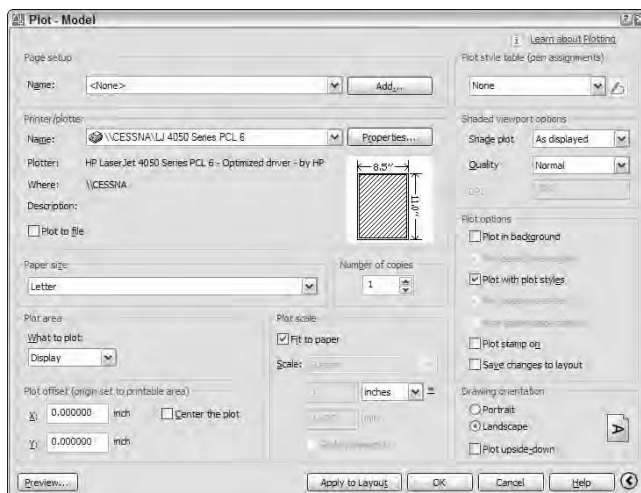

Figure 13-3:
The Plot dialog box reveals additional settings, as shown in Figure 13-3.
- 12. In the Plot Options area, make sure that the Plot With Plot Styles check box is selected and that the Save Changes To Layout check box is deselected, as shown in Figure 13-3.**